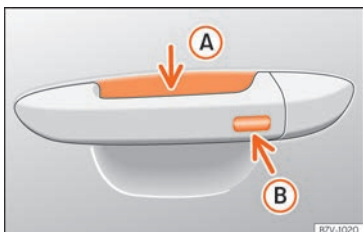

Fig. 52 Driver door lever: sensor surfaces.
»» Fig. 52
- Touch the sensor surface »» Fig. 52 (B) on the outside of the door handle. All turn signals flash once.
- Within 5 seconds, touch the sensor on the outside of the door handle »» Fig. 52 (B) once. Do not grip the handle while doing so. This temporarily deactivates the Keyless Access system.
To close all the electric windows and the sunroof using the **comfort function**, keep a finger for a few seconds on the locking sensor surface >>> Fig. 52 ② of the door handle until the windows and roof have closed.